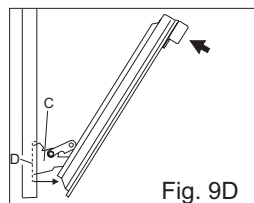

Fig. 9D
- 4 Using both hands, push the oven door lightly inwards, to enable the door hinges "C" to come away from the slots "D" (see fig. 9D) and pull the door towards you until it is released from the oven.